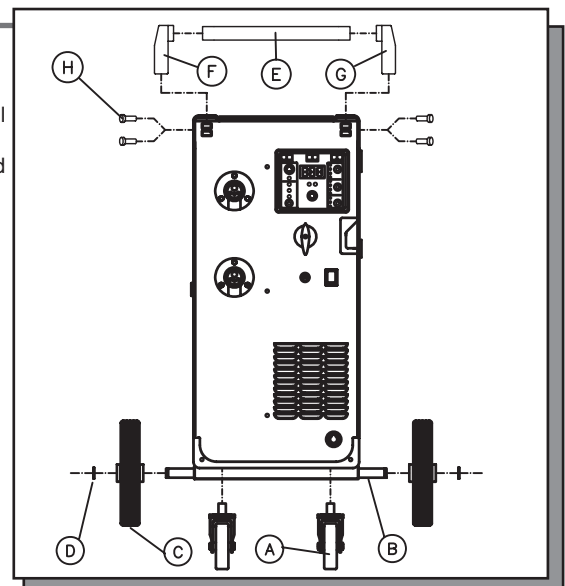

FIG. 6
5.1 HANDLE AND WHEELS ASSEMBLY (FIG.6)
- ✓ Screw the two casters (A) to the machine;
- ✓ Insert the axle (B) through the holes at the rear of the welder and slide a wheel (C) on to each end followed by the retaining washers (D);
- ✓ Assemble the handle (E) and the supports (F/G) using the screws provided (H);